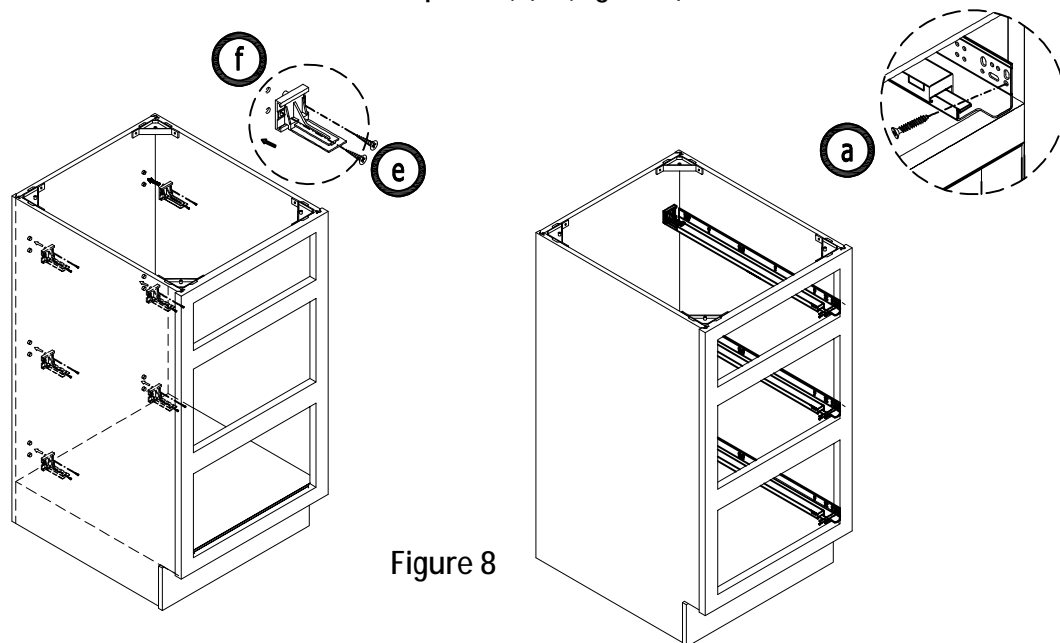

Figure 8
Put plastic block into free hole in the back panel (B) .(Figure 8)